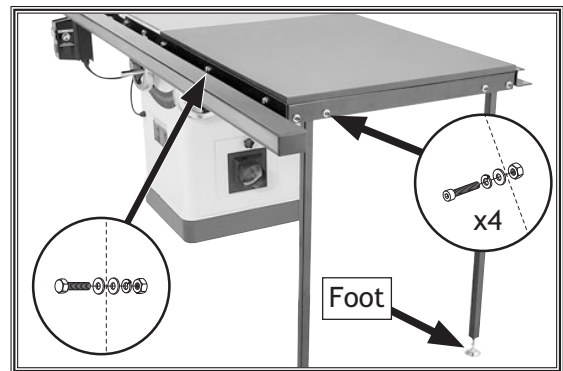

Figure 23. Model W1820 extension table installed.
1. Remove the six M6-1 x 16 hex bolts, (12) 6mm flat washers, six 6mm lock washers, and six M6-1 hex nuts from the extension table.
4. Use the four M8-1.25 x 20 cap screws, 8mm lock washers, 8mm flat washers, and M8-1.25 hex nuts to secure the legs to the end of the extension table, as shown in **Figure 23**.